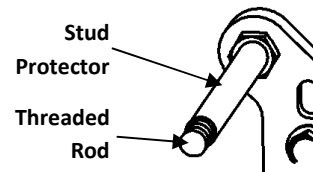

Figure 12
12. Slide plastic stud protectors onto the threaded rods. See **Figure 12**.